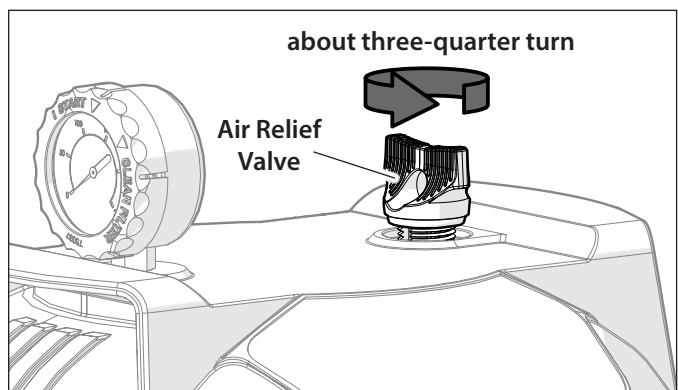

Figure 13. Open Air Relief Valve
7. Stand clear of the filter. Start pump and open the air relief valve on the filter lid about three-quarter turn – until you hear air being forced from the tank (Figure 13).